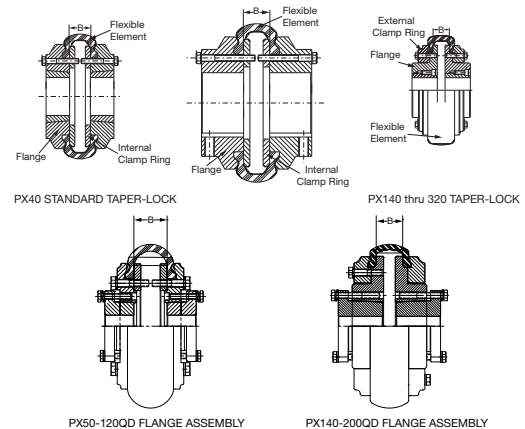

Figure 1 - Two-Piece Flange Styles
3. Referring to Figure 1 and Table 1, observe the “B” dimension for the coupling size being installed. Mount and position the flanges on the shafts so that dimension “B” is achieved when the shafts are in their final position.